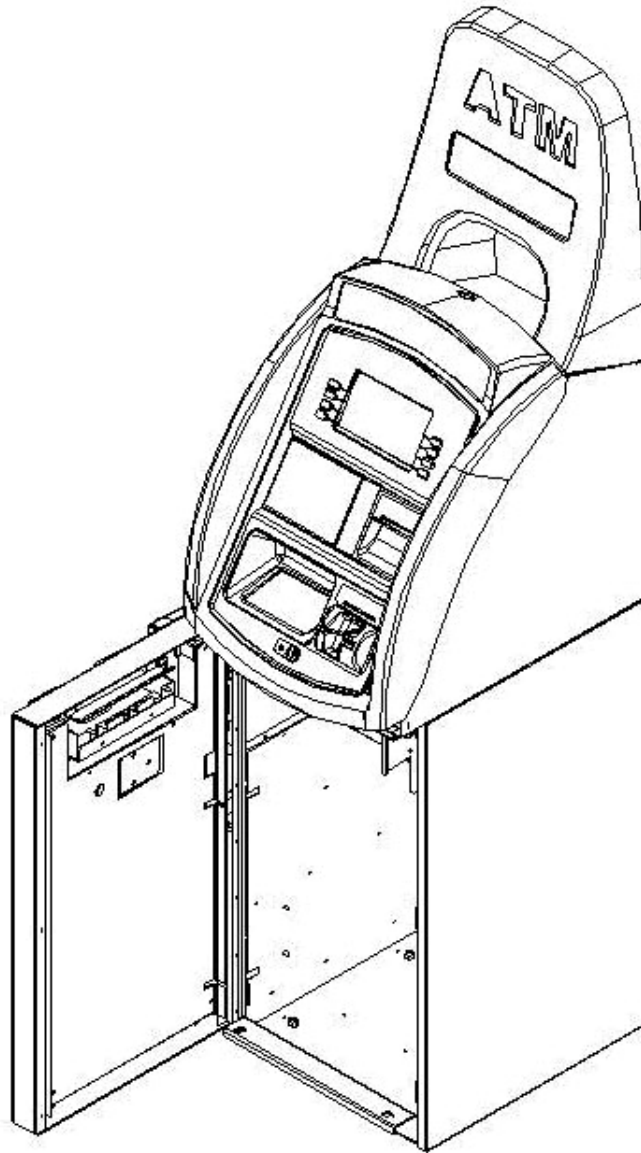

Fig. 4.6
- 6) After the anchor nuts are in place according to the anchor holes on the bottom of the NH-1800, tighten the anchor bolts tightly. (refer to Fig. 4.6)